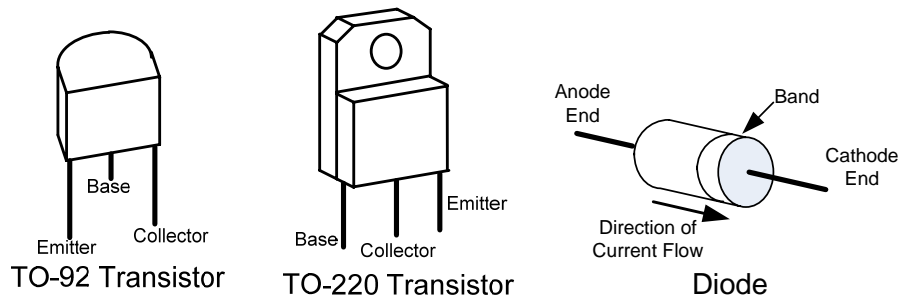

Figure 2: Electrical Component Configurations
1. Begin by inserting D1 through D4, observing the correct polarity, and soldering the leads to the circuit board. Diodes usually have a silver band at one end that indicates the direction the arrow points. Refer to Figure 2.
5. Insert transistor Q1 and solder to the circuit board. It is important to observe the orientation. The emitter E, base B and collector C are usually not identified so refer to Figure 2). If you have a transistor tester (often integrated with a digital multi-meter) use it to verify the position of the terminals.